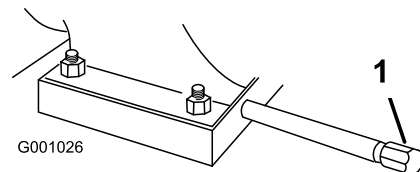

Figure 53
1. Clean the area around the oil drain cap (Figure 53).